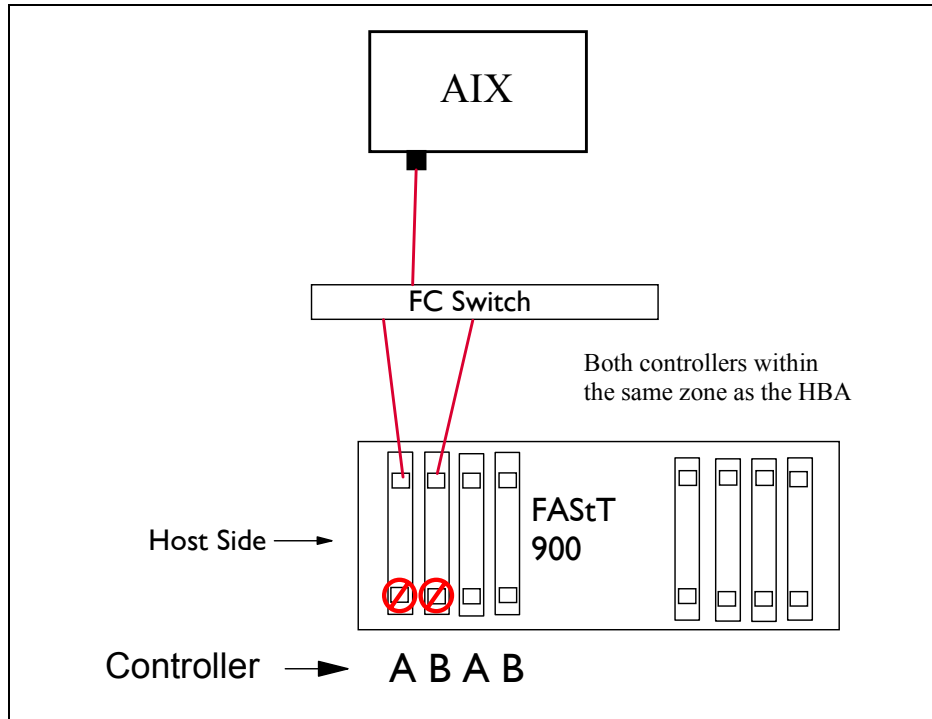

Figure 5-5 Single HBA configuration in AIX environment
- ▶ Single HBA configurations are allowed only in configuration with a SAN switch, but each single HBA configuration requires that both controllers in the FAStT be connected to a switch within the same SAN zone as the HBA. See Figure 5-5 on page 125.